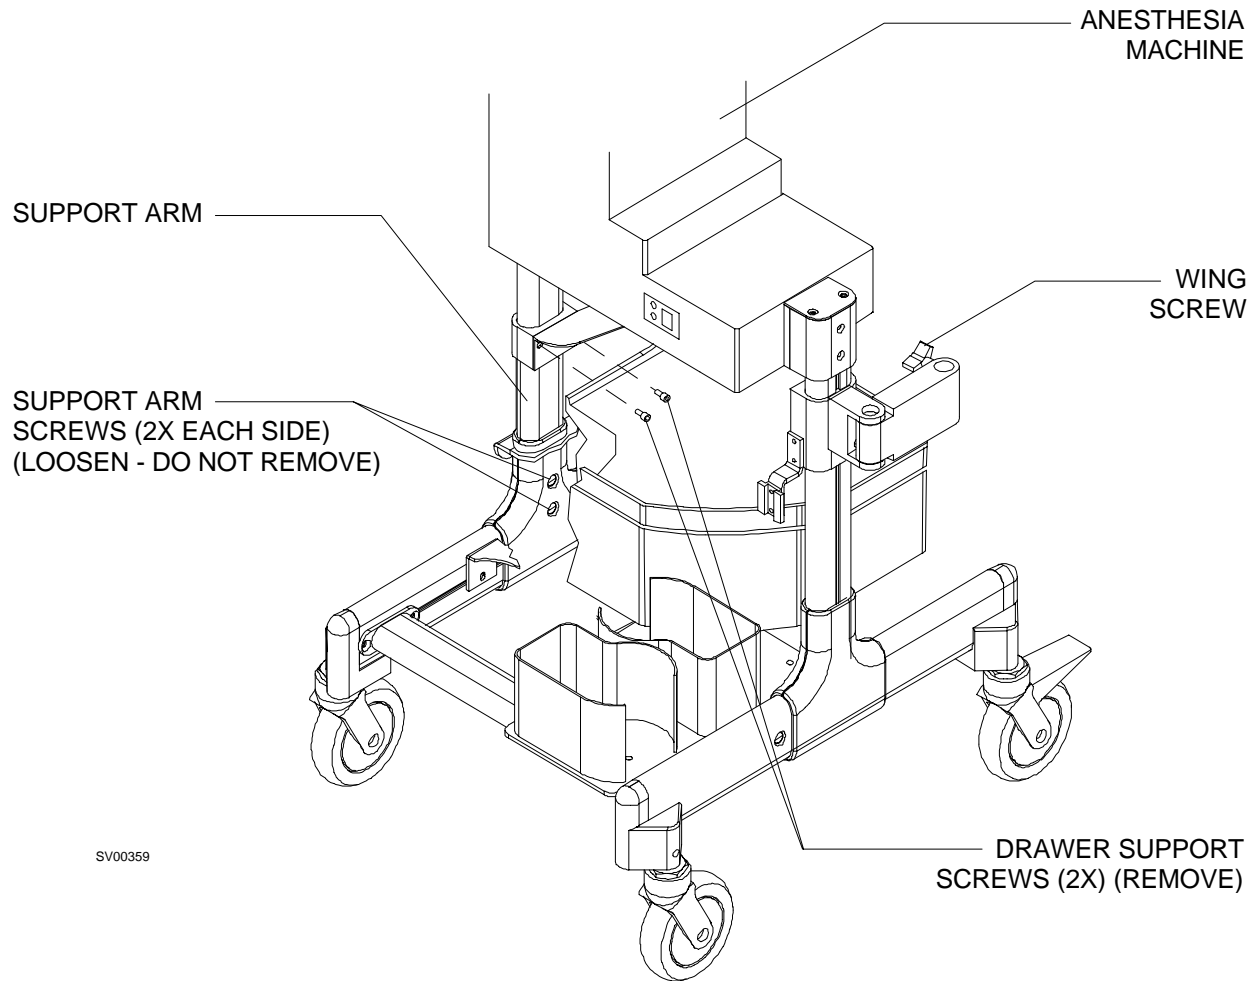

Figure 4-16A. Removal of Machine from Support Frame
- 4.16.8 Separate the machine from its support frame as follows (see Figure 4-16A):